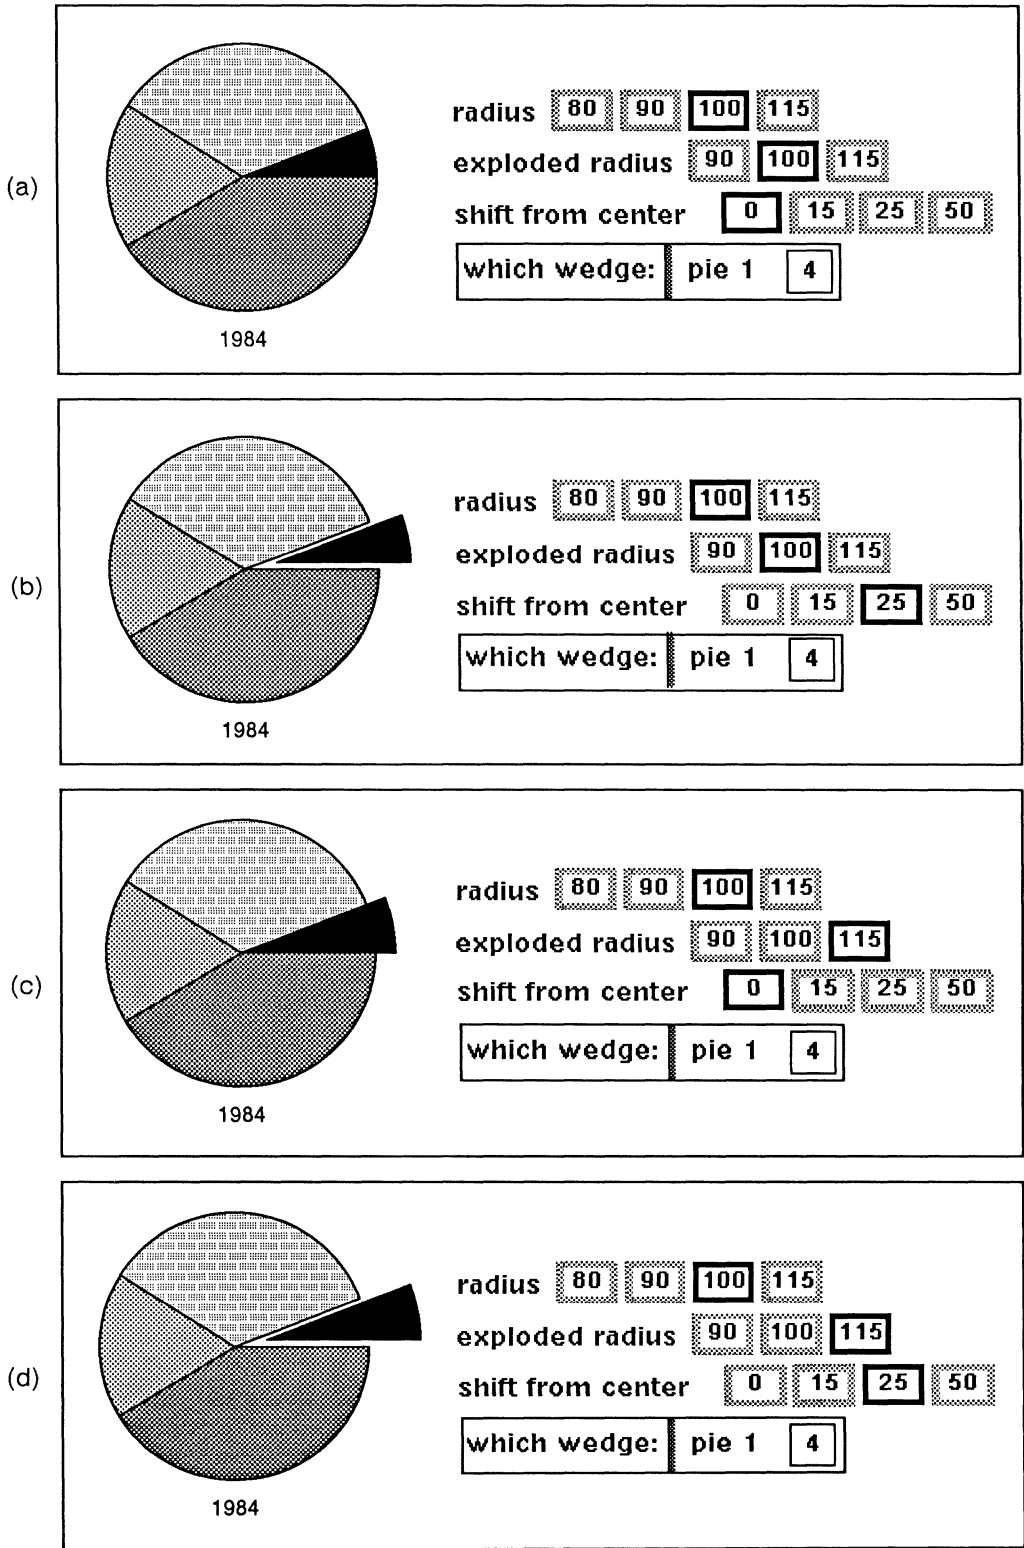

Figure 28-45. Pie charts
**Which wedge.** Which wedge designates the wedge of the pie that can be shifted. The wedges of the pies in a pie chart begin at 3 o'clock; therefore, in Figure 28-45, the darker grey wedge in each pie is *wedge 1*, and the wedge that is to be shifted is *wedge 4*.
Figure 28-45 shows the effect of various combinations of *radius*, *exploded radius*, and *shift from center*.